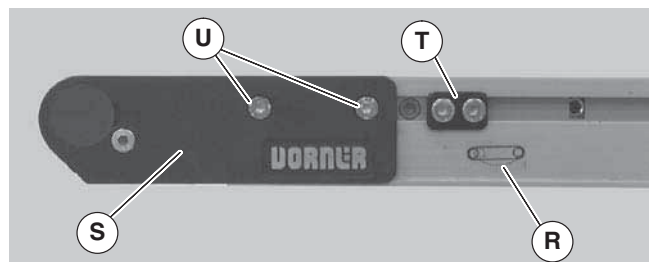

Figure 5
2. On tension end of the conveyor, identified with a  label (Figure 5, item R), push in head plate assembly (S): On both sides of conveyor, loosen and move cam tracking assemblies (T) (if equipped) away from head plates, then loosen fastening screws (U) and push head plate assembly inward.
7. If equipped with cam tracking assemblies (Figure 5, item T), adjust belt tracking. Refer to “Conveyor Belt Tracking”, page 18.